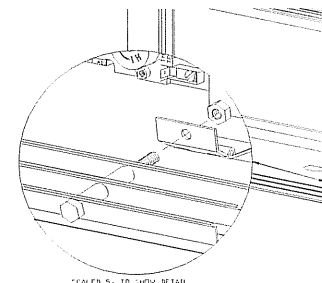

Figure K-2
4. INSTALL THE LOWER GRILL. Refer to Figure K-2.
- A. Remove the (2) 1/4" nuts from the grill.